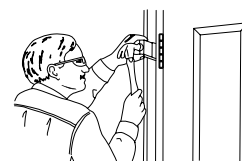

Fig. 7
- From the inside, level and shim the hinge jamb. Place shims behind each hinge (Fig. 7). Be sure the hinge jamb is level in both directions and is square in the opening.